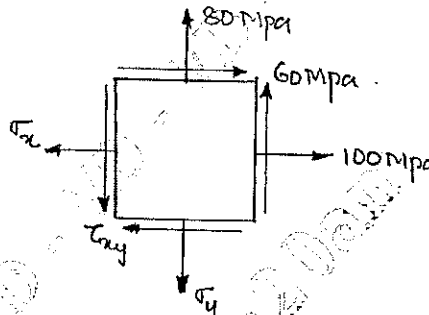

Fig.Q1(b)
- b. State of stress at a point in loaded member is as shown in Fig.Q1(b). Determine principal stresses and its direction, Max. shear stress and its direction.